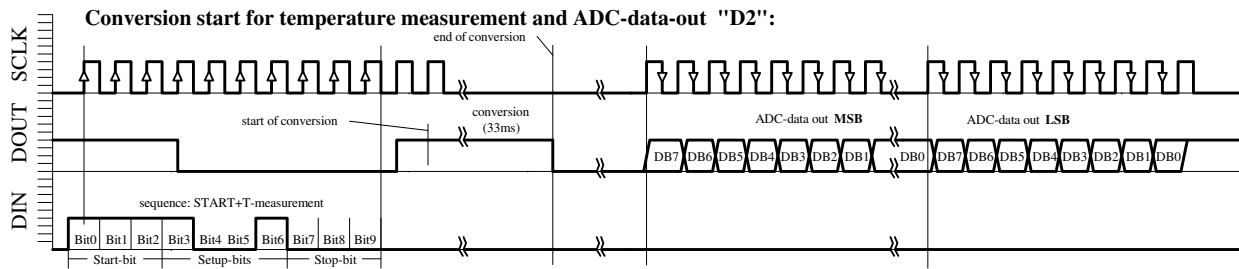

Fig. 6b: D2 ACQUISITION sequence.
- Conversion start for temperature measurement and ADC-data-out "D2" (Figure 6b)